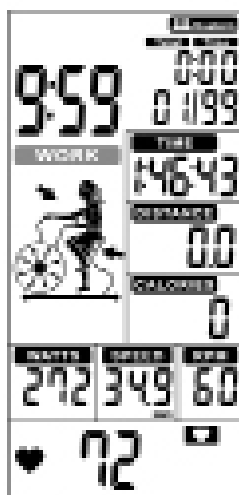

Figure 36
5. Cycle time counts down from the preset total time and WORK flashes once per second along with buzzer beeps. Then TOTAL TIME, DISTANCE, CALORIES, WATTS, SPEED & RPM start calculating, counting displays '01/XX'(Figure 36).